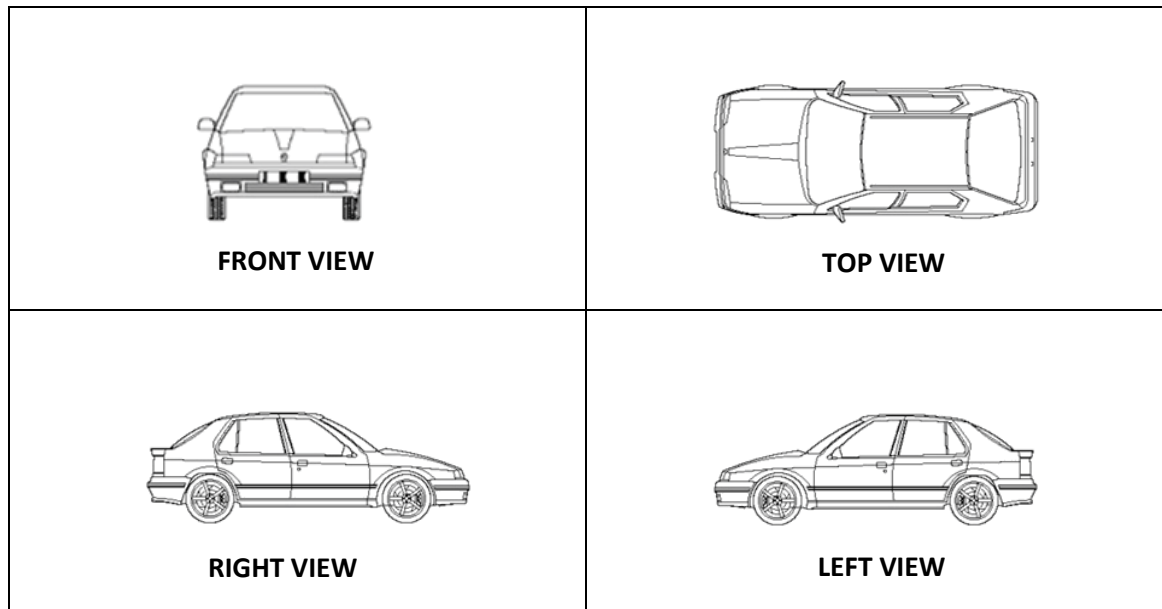

Figure 1.4
- 5.11 The video must show the overall view of the project from four different angles (**FRONT, TOP, LEFT and RIGHT**) refer Figure 1.4, and must demonstrate all the functions.